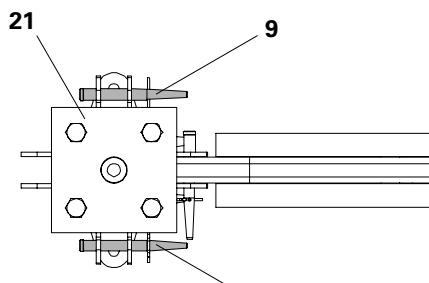

Fig. F3.03a
The lifting gear is attached to 4 Lifting Pins Ø 21 x 120 (9) which are mounted on the Prop Connector VST 48 (21). (Fig. F3.03a)